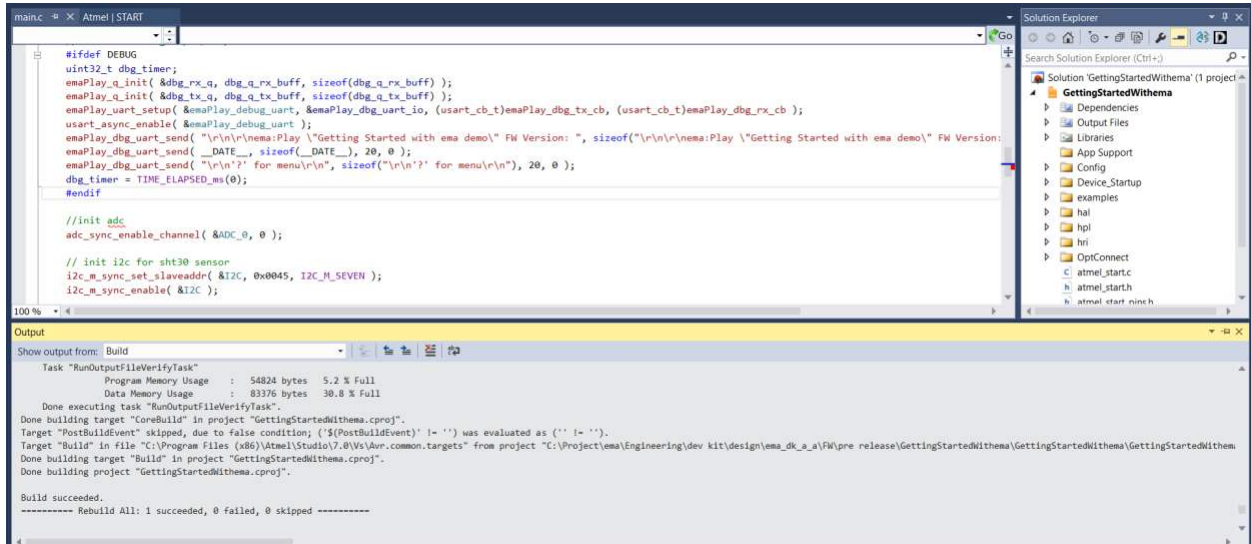

Figure 12
8. **Build the project:** Click “Build”, then “Build Solution”, or simply press F7 to compile the source code and build the project. The “Output” window can be observed for any errors. There should not be any errors if using the provided project. Reference *Figure 12*.